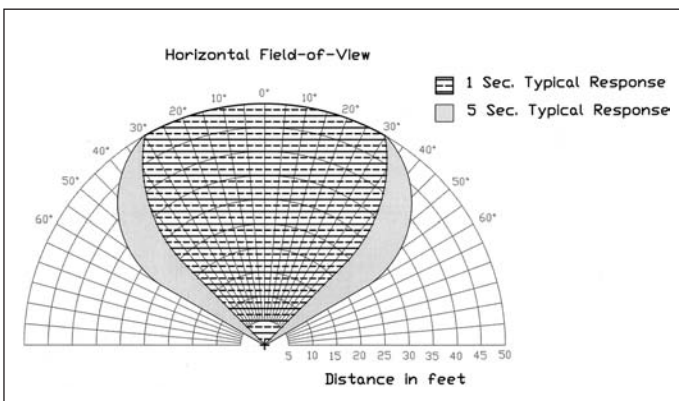

Fig 1. 660/860 horizontal field of view
- 120 degree horizontal field-of-view (figure 1)
**4** Determine the critical areas where fires are most likely to occur. Use these areas as focal points for aiming the detectors. The detectors have a conical field-of-vision as shown earlier in Figures 1 and 2. The type of fuel and the size of the fire will determine the range of detection. Aim the detector at a point equal to or below horizontal, so that water, dust and dirt will not accumulate on the optical surfaces of the detector. As a general rule, mount the detector so that it will view the base of the area to be protected.